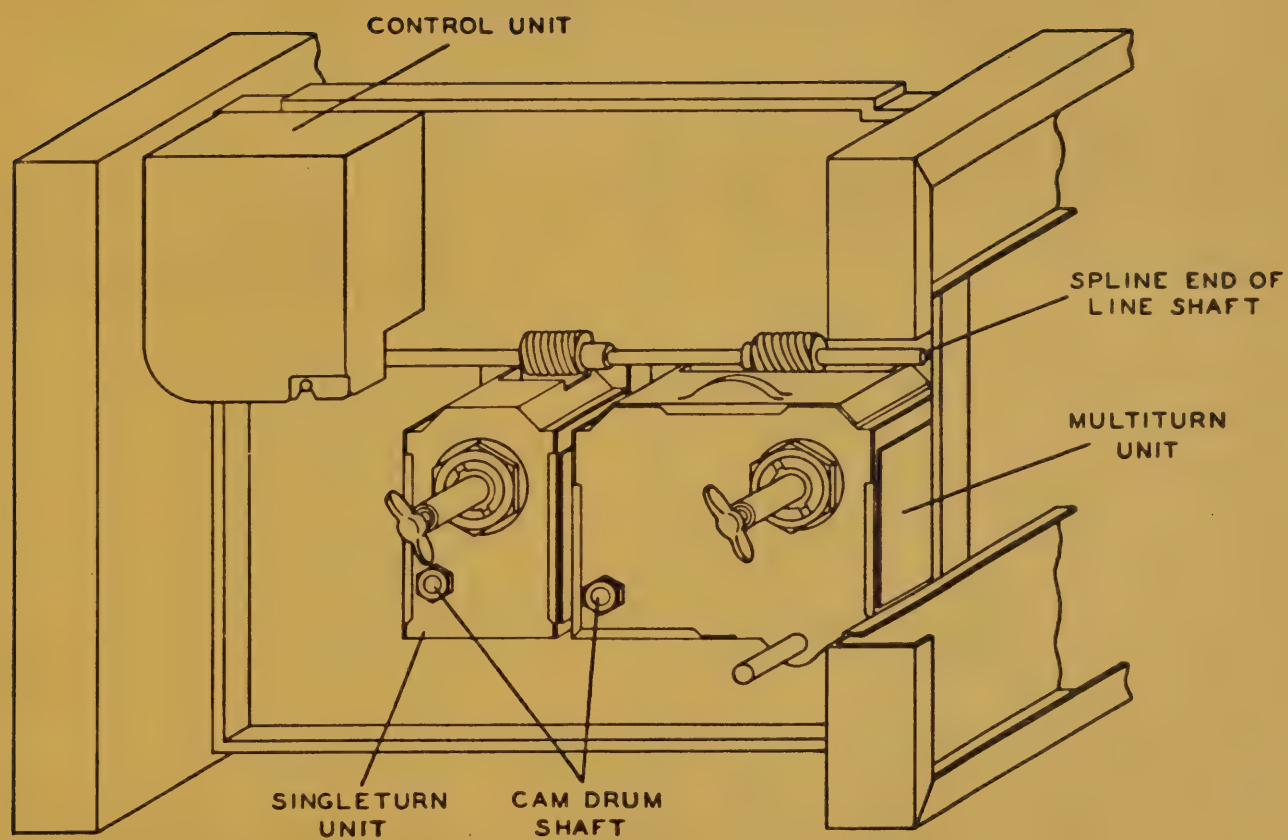

Figure 5-4 Autotune Synchronism Adjustments
2. Loosen the locking collar on the seeking switch drive shaft with a Phillips screwdriver. (Refer to figure 5-4.) Do not remove the locking collar from the shaft.
1. Insert a number 10 Bristo wrench into the end of the shaft of the cam drum of the multiturn unit. (Refer to figure 5-4.)
12. Insert the Bristo wrench into the end of the cam drum. (Refer to figure 5-4.)